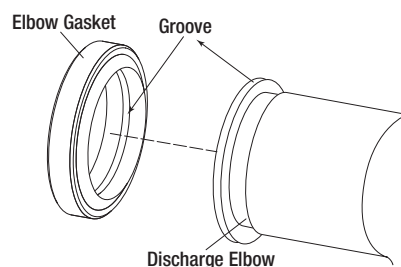

Fig. 9
- Make sure the elbow gasket is attached to the discharge elbow correctly (see Fig. 9).